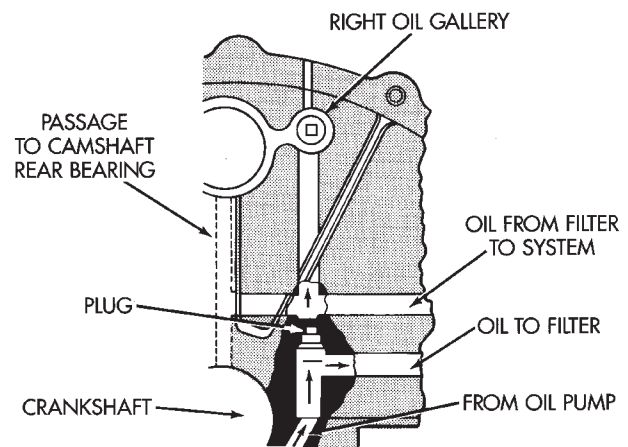

Fig. 49 Oil Line Plug
The oil line plug is located in the vertical passage at the rear of the block between the Oil-To-Filter and Oil-From-Filter passages (Fig. 49). Improper installation or plug missing could cause erratic, low or no oil pressure.
- (1) Remove oil pressure sending unit from back of block.
- (2) Insert a 3.175 mm (1/8 inch) finish wire or equivalent into passage.
- (3) Plug should be 190.0 to 195.2 mm (7-1/2 to 7-11/16 inches) from machined surface of block (Fig. 49). If plug is too high, use a suitable flat dowel drift to position properly.